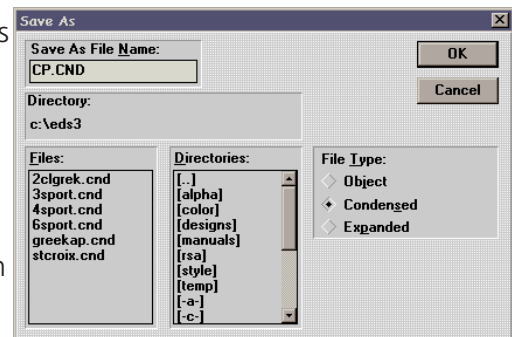

Figure 5-46
1. Click on File→Save As. The Save As dialog box displays as shown in Figure 5-46.